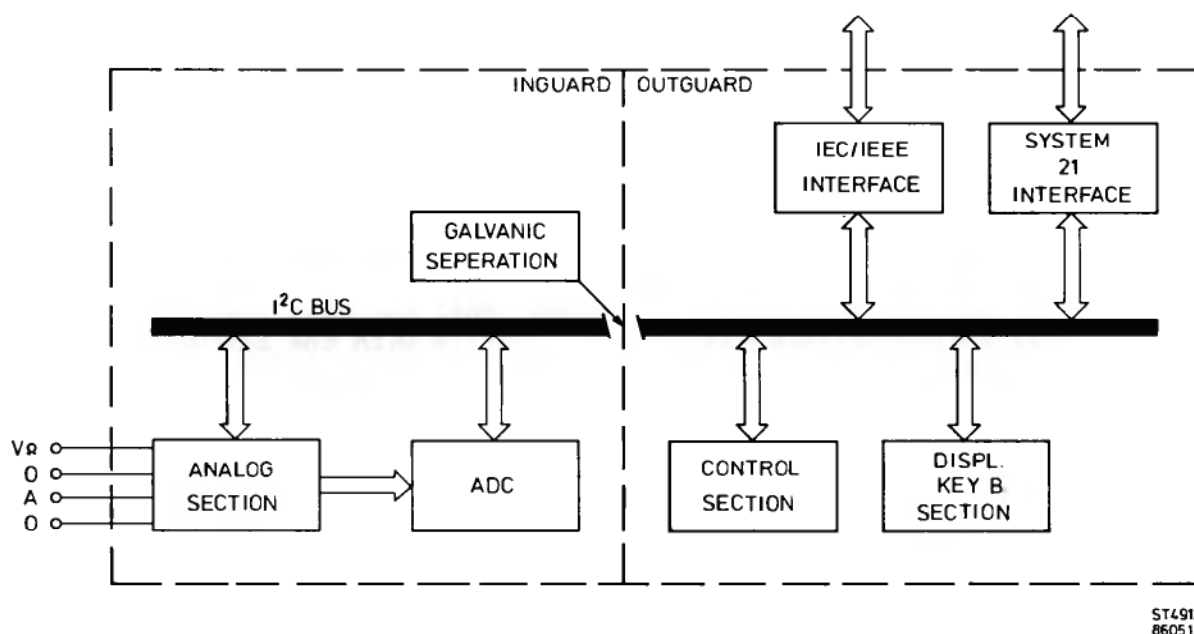

Figure 3.2 Block diagram
3.1. EXPLANATION OF THE BLOCK DIAGRAM (refer to figure 3.2)